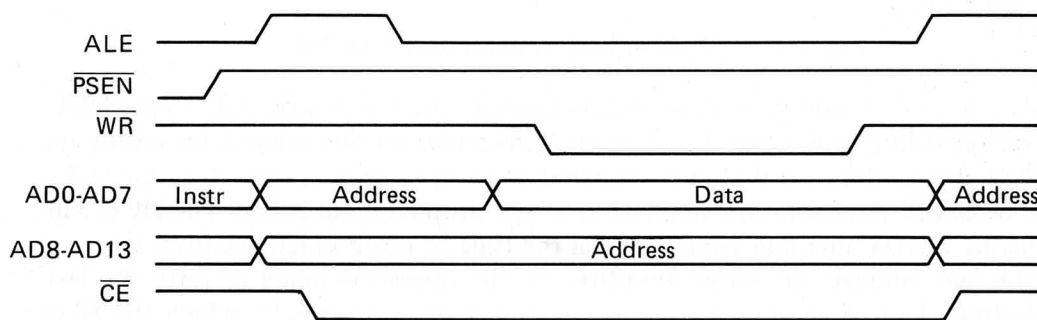

Fig. 7.13 RAM write timing diagram
The instructions which are fetched from the control ROM are decoded and processed by the 8031/8051. Instructions which require reading from or writing to RAM make use of separate Read and Write control lines. Fig. 7.13 illustrates the timing of a write operation to RAM. Once again the low order byte of the address is presented on the multiplexed address/data lines and is latched by the negative transition of the ALE line. At the same time that the low order address byte is being latched address lines A11 through A13 of the high address byte are decoded to provide chip enable (CE) lines to the RAM chips. The chip enable lines are active for each of the 2K increments of available RAM up to a maximum of 8K. With the address latched and decoded the MPU will now place the write data on the address/data lines. The data will be placed in RAM during the positive transition of the Write control line. During the write cycle the PSEN line will remain inactive which disables the control ROM from decoding the address and attempting to present any output data to the address/data bus.